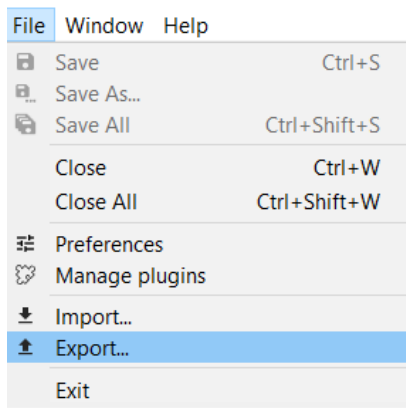

Figure 37: Exporting as EcoSpold1 and EcoSpold2, step 1
- To export processes as excel files begin by activating the database from which data should be exported. Then select "File" --> "Export" as illustrated in Figure 37. The export wizard will pop up. Select "Processes" in the Excel folder and click "Next". Then select the location where the data should be saved as well as the processes to be saved and click "Finish". Each process will be saved as an individual excel file.